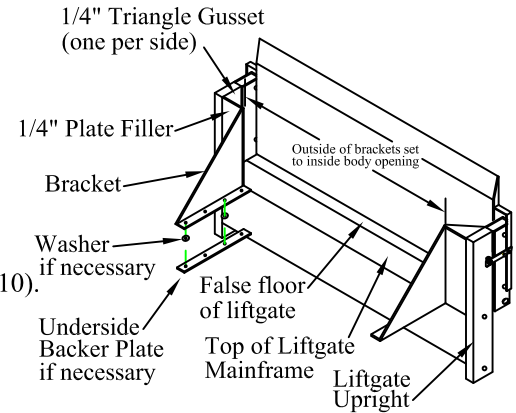

Figure 10: Upper mount option #3.
2. **Position** the mounting brackets in the truck bed (Figure 10):
4. **Use** a 1/4" filler to span the gap between the bracket and the liftgate as shown (Figure 10).
8. **Weld** 1/4" triangle gussets to the top of each upright as shown (Figure 10).
9. **Bolt** the liftgate to the floor of the service body with at least (2) 3/8-16 bolts per side.